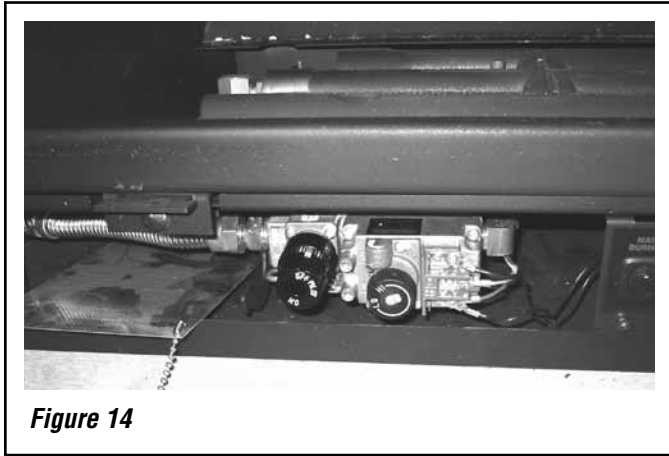

Figure 14
- Re-install the replacement control knob using the phillips screw taken out in step b (see **Figure 14**).